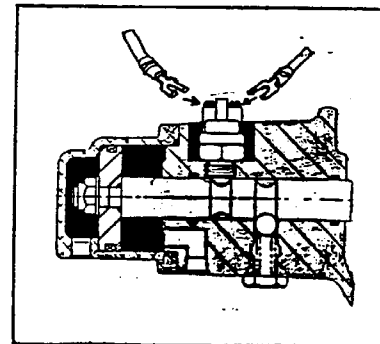

Fig. 6
Step 4: (See Fig. 6) Install crimp-on spade connectors on the two wire ends at the 784 switch. Fasten one spade connector to each screw on the switch. It does not matter which wire goes to which screw. Conversion is now complete.